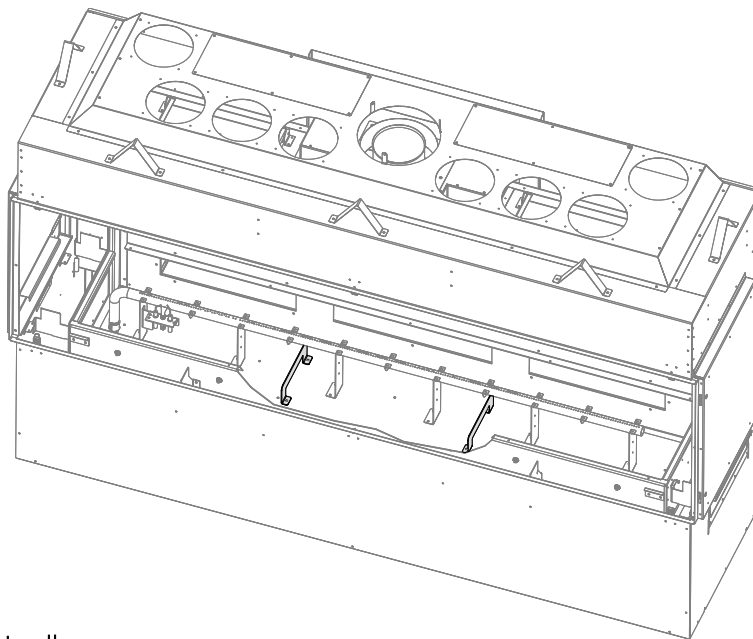
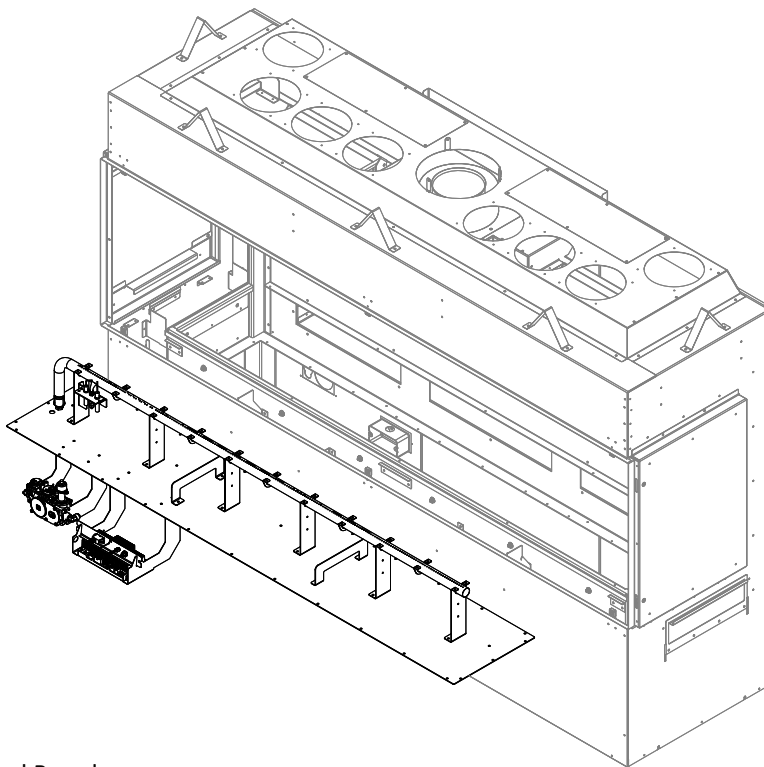

Figure 7.20 - Board Lifting Handles
Figure 7.21 - Remove Control Board
5. Remove the (24) sheet metal screws securing the control board to the bottom of the firebox. Figure 7.20.
6. Start by locating the two lifting handles (Figure 7.20) near the center of the control board. When pulling the control board up and out you will have to tilt the control board towards you so the valve and module pivot into the opening. Lift the control board up to gain access to under the control board (Figure 7.21).